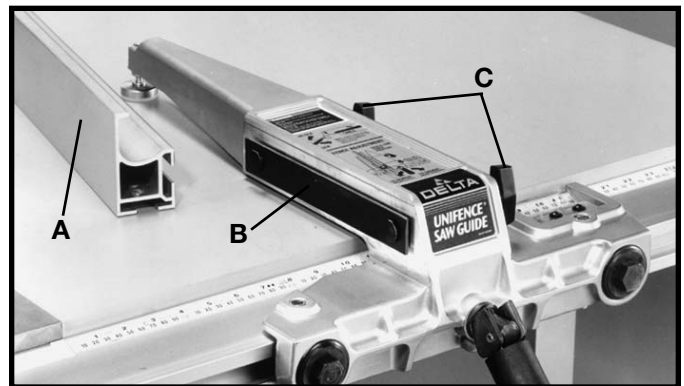

Fig. 86
In some cases it may be desirable to use the fence on the left side of the saw blade. This is accomplished by repositioning the fence (A) Figures 86 and 87, fence clamp bar (B) and lock knobs (C) so that the fence (A) will be attached to the right side of the fence body, as shown in Fig. 87. The complete fence assembly (D) Fig. 87, can easily be moved to the left side of the saw table.